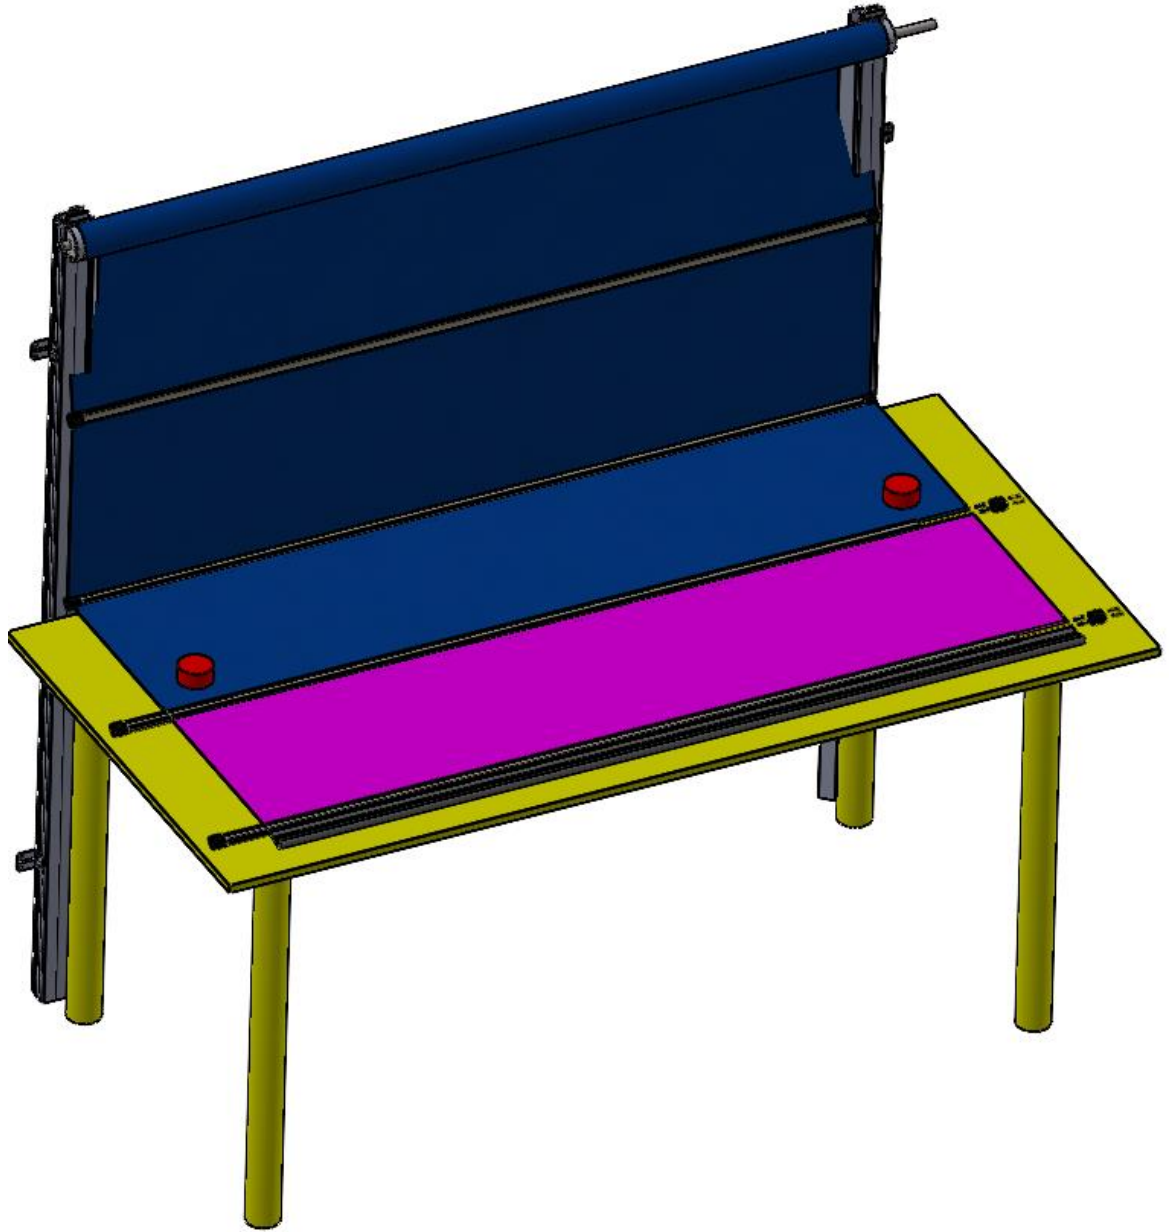
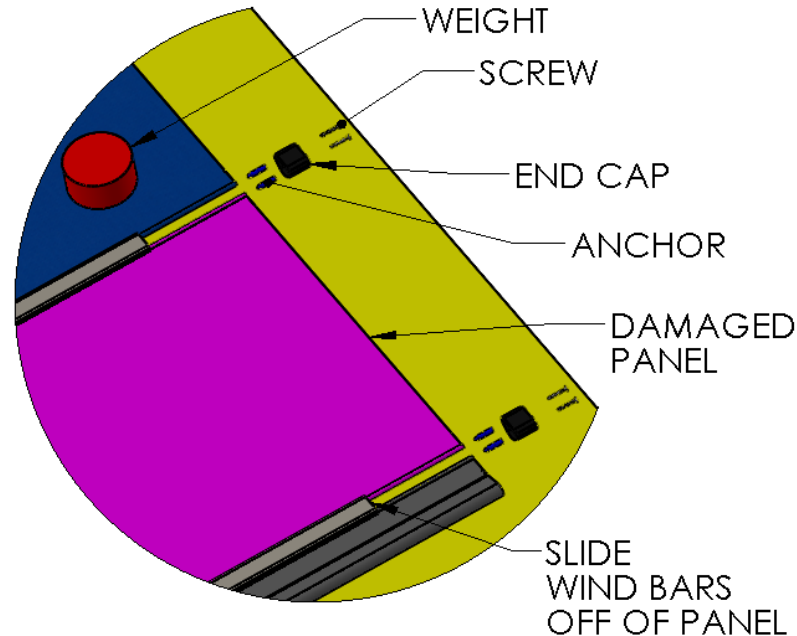

Figure 3 DOOR ON WORK SURFACE WITH WEIGHTS ON PANEL
Figure 4 PART IDENTIFICATION/ REMOVAL PROCESS
3. At one end of the Wind Bar, remove two Screws, the End Cap, and two plastic Anchors. (Figure 3 DOOR ON WORK SURFACE WITH WEIGHTS ON PANEL, Figure 4 PART IDENTIFICATION/ REMOVAL PROCESS)
5. Slide the Wind Bar off the ends of the panel above, and the panel below, the panel to be replaced. (Figure 4 PART IDENTIFICATION/ REMOVAL PROCESS)
2. At one end of the Wind Bar, remove the Screw and End Cap. (Figure 3 DOOR ON WORK SURFACE WITH WEIGHTS ON PANEL, Figure 4 PART IDENTIFICATION/ REMOVAL PROCESS)